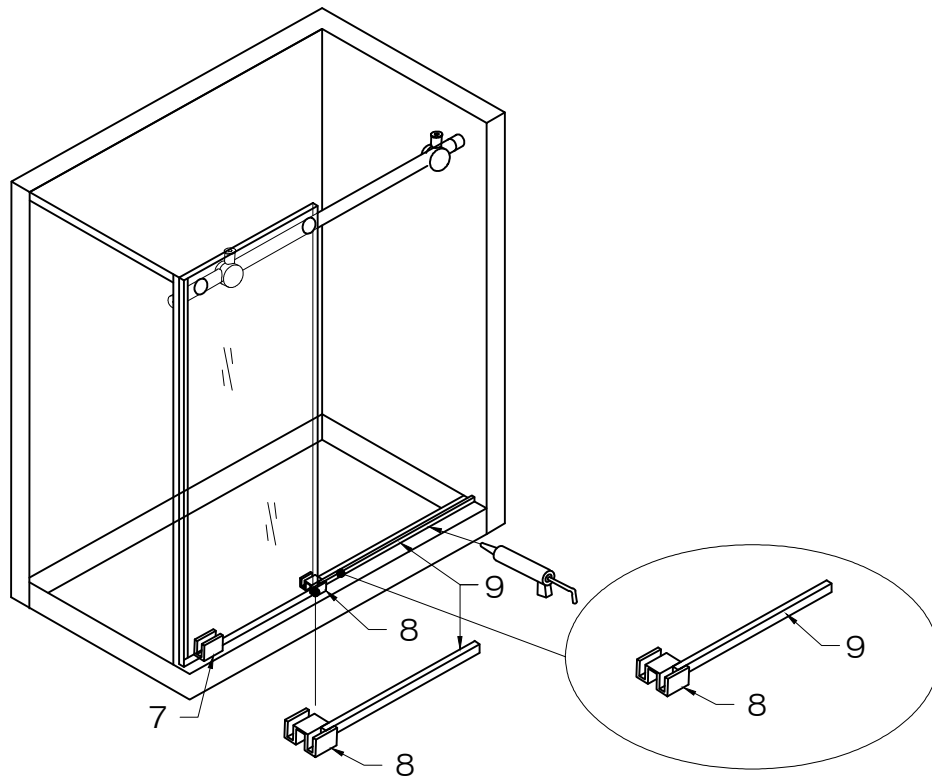

FIG. 11
1. Place the threshold (#9) to the bottom door guide (#8). Note that the end of the threshold should go half inside the bottom door guide and rest against the fixed panel (#4). If the threshold is too long, then cut it with the hacksaw until it fits the opening. [SEE FIG.11]